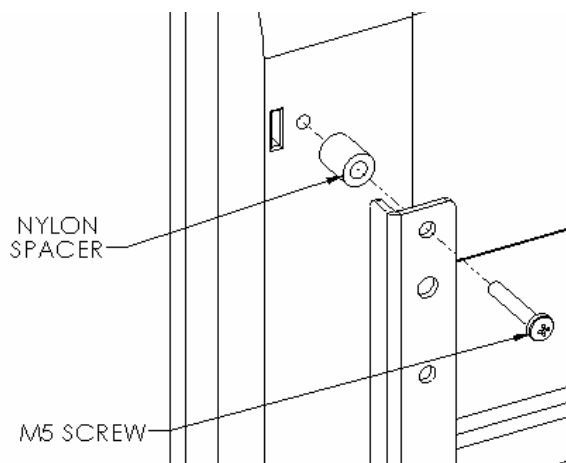
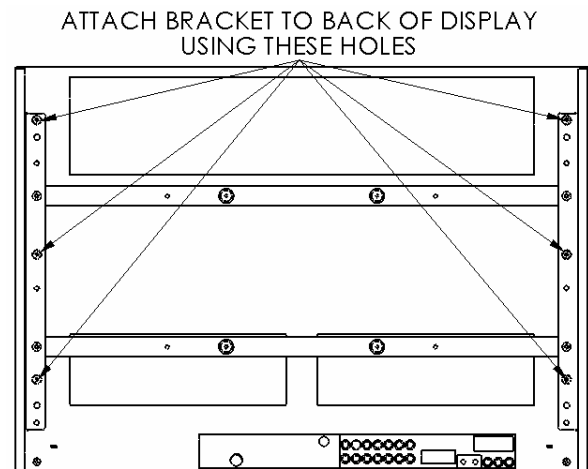

Figure 8
Figure 9
5. **Interface Installation:** Using M5 screws and nylon spacers, secure side brackets to display (see Figure 8 & Figure 9). Do not over tighten screws. The 1/4-20 button head cap screws attaching the side and center brackets may need to be loosened in order to line up holes on display. If this is done, please be sure to tighten them once again.